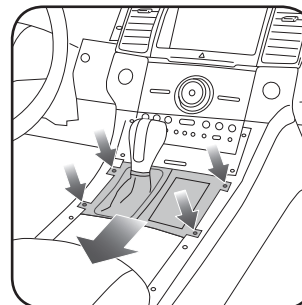

Fig. 1.5
9. Remove four (4) 7mm screws holding the shifter panel. Slide the panel backwards. (Fig. 1.5)